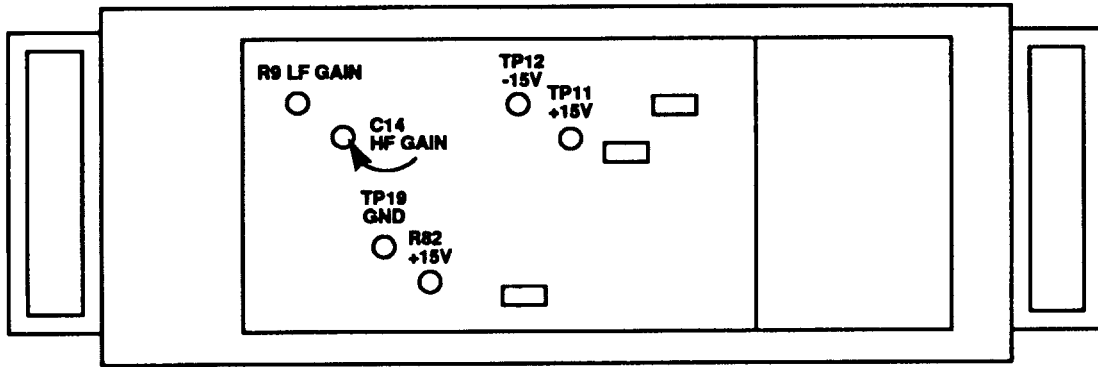

Figure 18. Power amplifier – adjustment locations.
(1) Adjust R9, LF GAIN (fig. 18) for TI measured output between 0.99990 and 1.00010 kV. (R)
(2) Adjust C14, HF GAIN (fig. 18) for TI measured output between 0.99990 and 1.00010 kV. (R)
(1) Connect digital multimeter between TP11 +15V and TP19 GND (fig. 18). If digital multimeter does not indicate between 14.95 and 15.05 V, perform **b** below.
(2) Connect digital multimeter between TP12 -15V and TP19 GND (fig. 18). Digital multimeter will indicate between -14.65 and -15.35 V.
b. Adjustments. Adjust R82 +15V (fig. 18) for a digital multimeter indication between +14.95 and 15.05 V dc. (R)